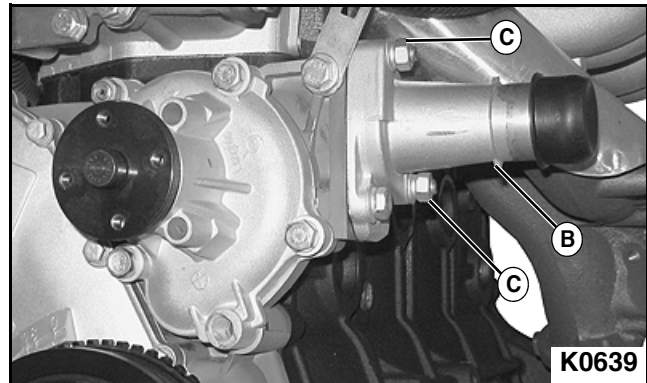

Figure 3-13
2. Install thermostat housing (B) over thermostat. **See Figure 3-13.**
3. Install thermostat housing mounting nuts, flat washers, and lock washers (C).